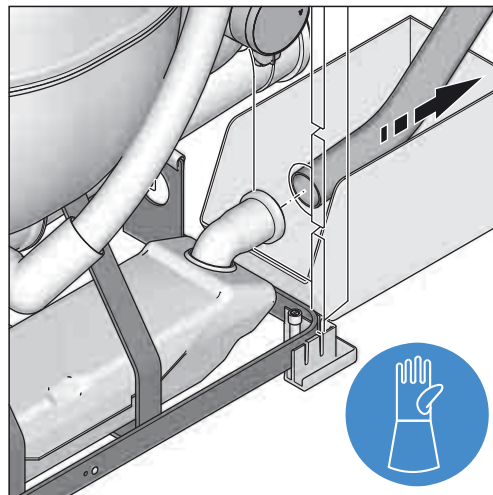

Fig. 9-7 Pull out connecting flexible hose
4. Place collector container under the hose connection. Remove the flexible connector hose from the condensate box (fig. 9-7).